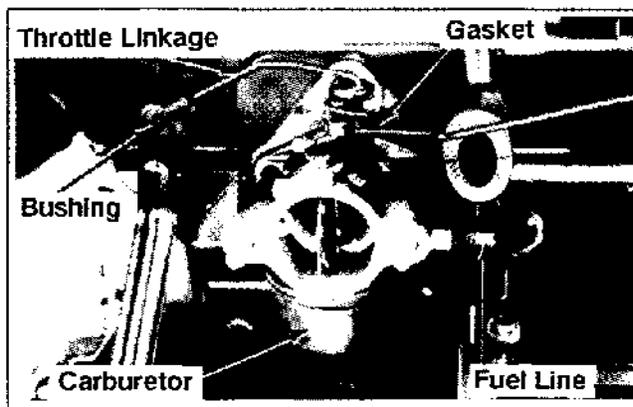

Figure 11-42. Installing Carburetor And External Governor Components.
1. Install the rubber fuel line and two hose clamps to the metal fuel line. Secure the rubber fuel line to the metal fuel line with one of the hose clamps. See Figure 11-42.